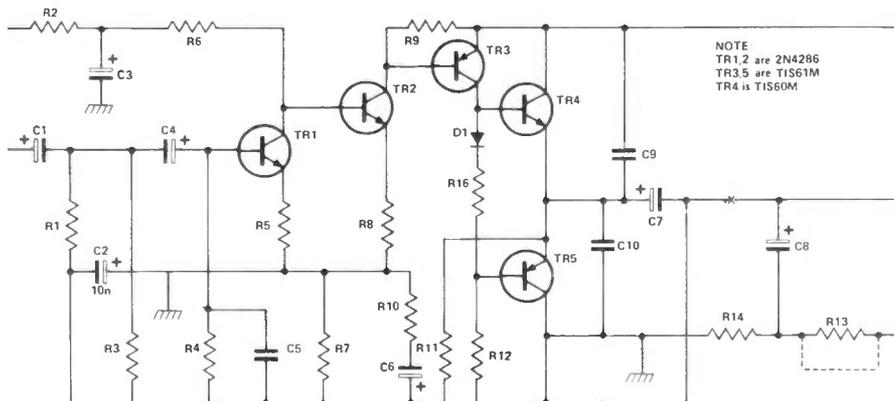

Figure 7: Circuit diagram for the audio amplifier.
**Receiver audio:** The circuit for the audio amp is shown in Figure 7, with the output coming via C7 to the speaker, and the audio in from the microphone (in fact the same speaker) going via C8 and R15 to the first Tx audio board. If the line could be interrupted at point X, the input and output could be split to provide audio output for another speaker, separate from the speaker/mic. It is, in fact, quite easy to lift the top of C7. This can now be connected to a 3.5 min jack socket mounted in the space on the front panel (already partly drilled out by Pye). Use a socket with the longest possible thread, because it only just reaches through the panel. This should be wired so that C7 and C8 are normally connected together, but, when a plug is inserted, this connection is broken and C7 feeds the external speaker. The other speaker wire should be connected to earth. This modification in the author's experience greatly improves the received audio, particularly when the rig is used mobile.